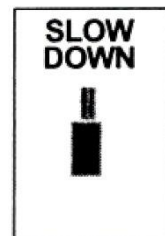

Figure 11
4.2 When using the docking system, pilots are to taxi into the aircraft stand at minimum speed. The system will display "SLOW DOWN" to inform the pilot if the aircraft's taxiing speed is too fast (see figure 11).